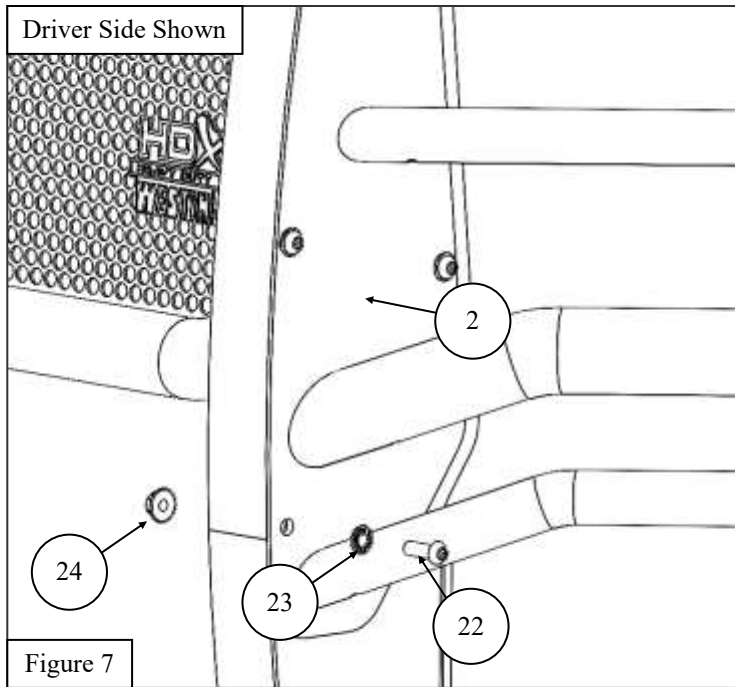

Figure 7
8. Locate and mount the HDX Driver Wing (Item 2) to the HDX Grille Guard Base using the supplied M8 hardware (Items 22-24). See **Figure 7** for reference. Repeat for the HDX Passenger Wing (Item 3)..